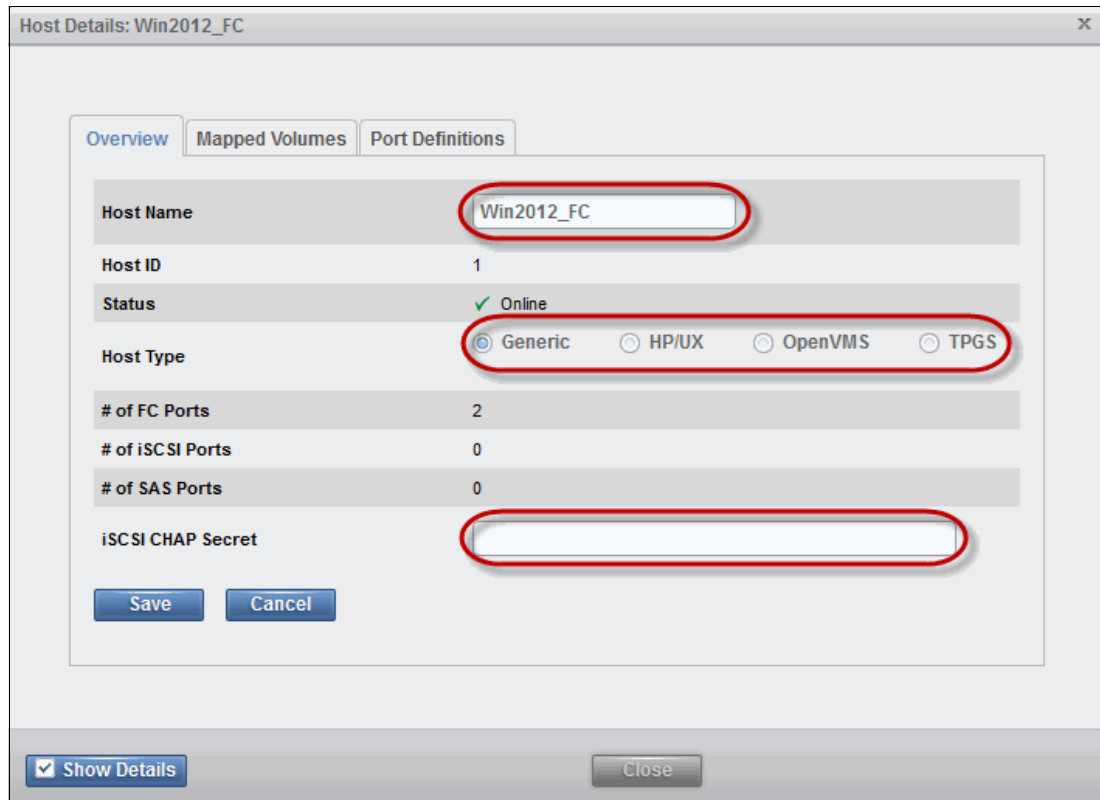

Figure 8-24 Host properties: Editing host information
3. To change the host properties, click **Edit** and several fields can be edited, as shown in Figure 8-24.